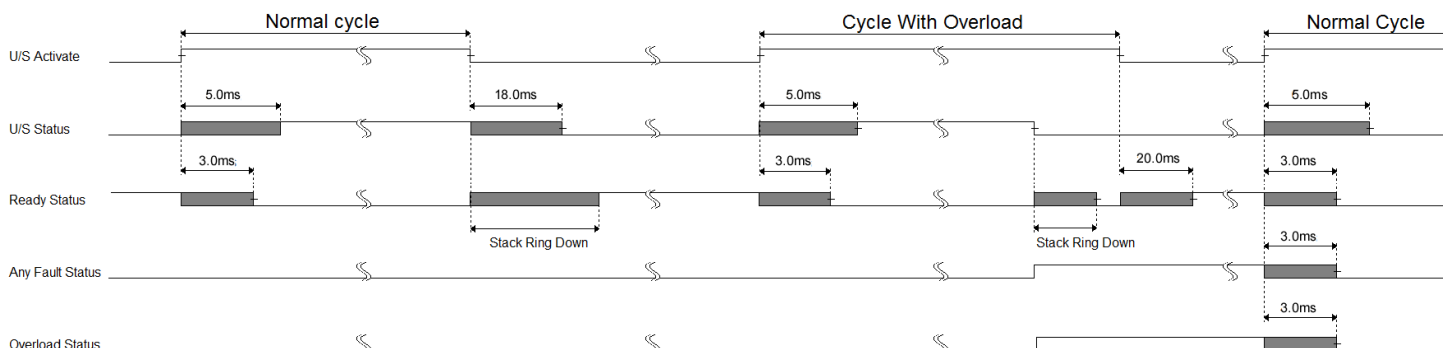

Figure 1: LS / LS-E Weld-by-Automation Cycle Timing Diagram
**The Ready Status Output:** The Ready Status output is used to determine if the generator is ready to start a new weld cycle. As seen in Figure 1, the Ready Status output requires a minimum of 3ms to change to its deactivated state after the U/S Activate input is activated. For correct operation, a PLC controlling an LS or LS-E Automation generator must delay at least 3ms after activating the U/S Activate input before checking the Ready Status output. At the end of a normal cycle, the Ready Status output requires a minimum of 19.5ms to change to its activated state after the U/S Activate input has deactivated. For correct operation, a PLC controlling an LS or LS-E Automation generator must delay at least 19.5ms after deactivating the U/S Activate input before checking the Ready Status output. It is possible that the stack ring down time (stack stops vibrating), which is stack and application dependent, will make this time much longer.
**The U/S Status Output:** The U/S Status output is used to determine when the generator has activated its ultrasound output to the ultrasonic stack. As seen in Figure 1, the U/S Status output requires a minimum of 5ms to change to its activated state. For correct operation, a PLC controlling an LS or LS-E Automation generator must delay at least 5ms after activating the U/S Activate input before checking the U/S Status output. At the end of a normal cycle, the U/S Status output requires a minimum of 18.0ms to change to its deactivated state after the U/S Activate input has deactivated. For correct operation, a PLC controlling a LS or LS-E Automation generator must delay at least 18.0ms after deactivating the U/S Activate input before checking the U/S Status output.